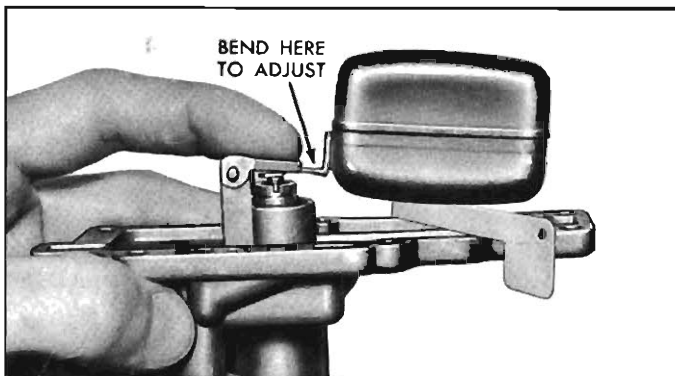

Fig. 9-29—Adjusting Float Level
3. Invert cover and measure the distance between cover gasket surface and float at center of float (fig. 9-29). This **FLOAT LEVEL** dimension should be  $\frac{5}{8}$ " or use Tool J-21056.
4. Adjust, if necessary, by bending float arm as shown in Figure 9-29.